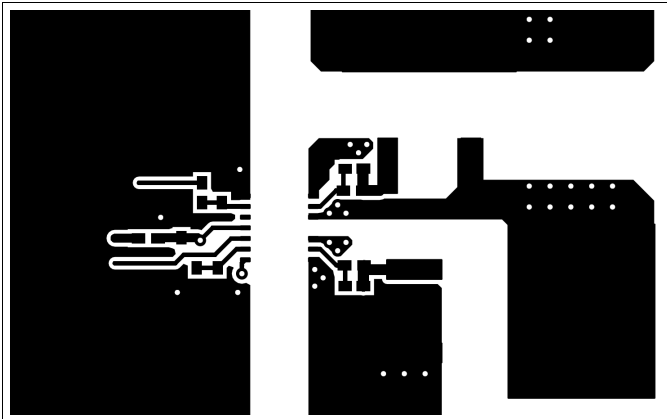
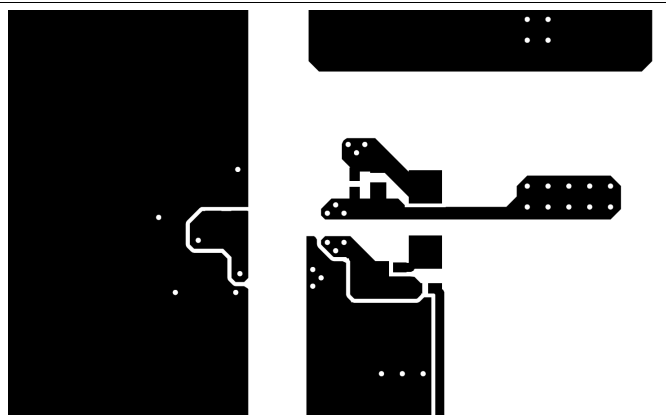

Figure 44. Top Layer Traces and Copper
Figure 45. Bottom Layer Traces and Copper
- Increasing the PCB copper connecting to VDDA, VDDB, VSSA and VSSB pins is recommended, with priority on maximizing the connection to VSSA and VSSB (see Figure 44 and Figure 45). However, high voltage PCB considerations mentioned above must be maintained.
Figure 44 and Figure 45 shows top and bottom layer traces and copper.